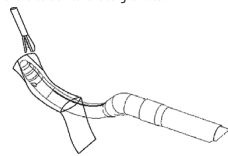

Figure 5
- Once the desired placement of the Guide is achieved, use a grasping device to grasp one of the Lateral Tabs (Figure 5) on the Guide and remove the Guide from the auxiliary tool. Externally secure the distal end of the Guide near the surgical site.